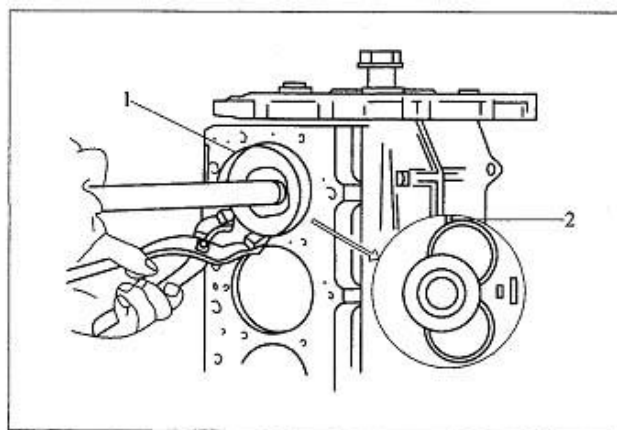

Figure 3-9 Reassembling Piston with Special Piston Rings Compressor
- **Note:** The front mark of piston must be faced to the front of diesel engine when reassembling a piston (see Figure 3-9).